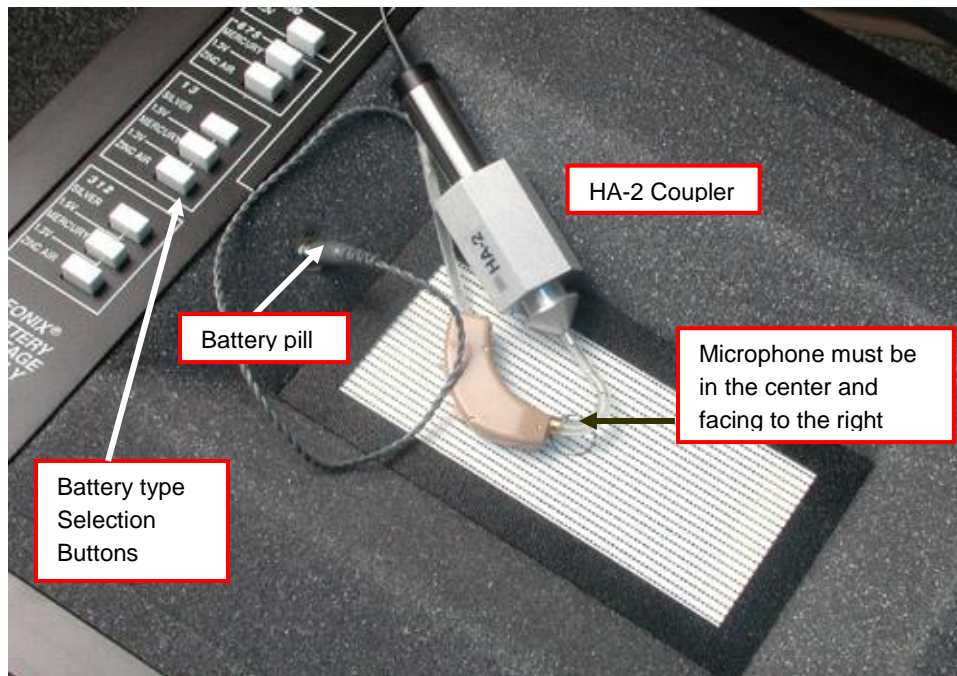
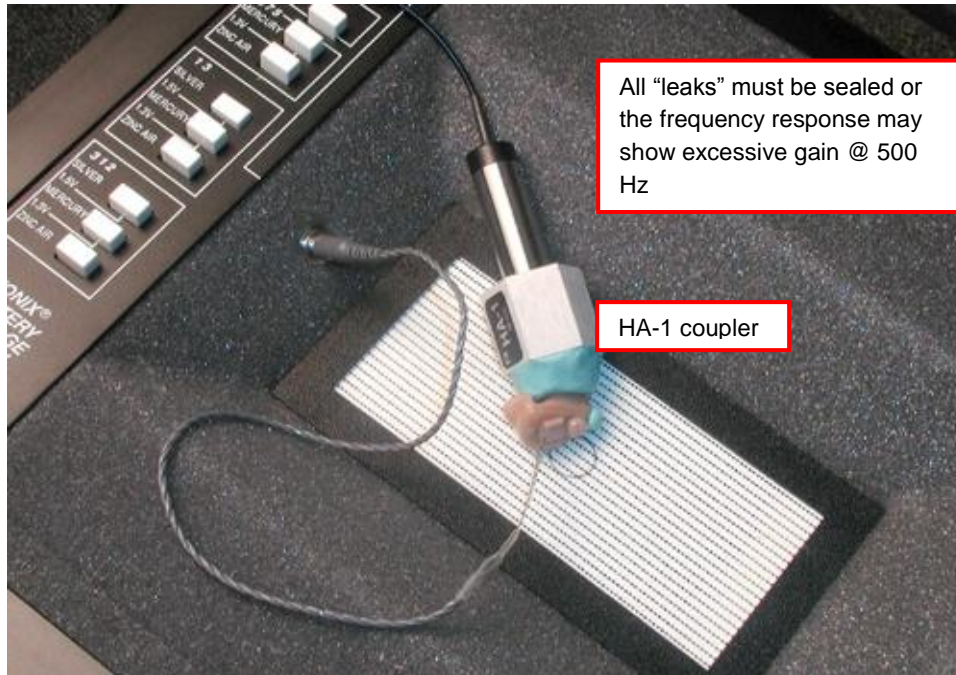
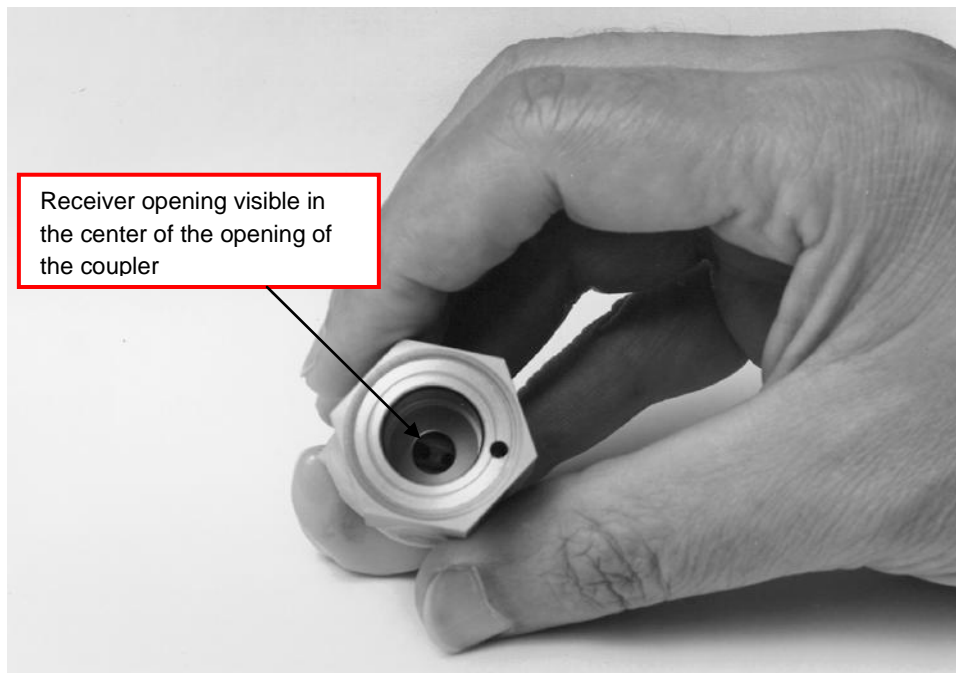
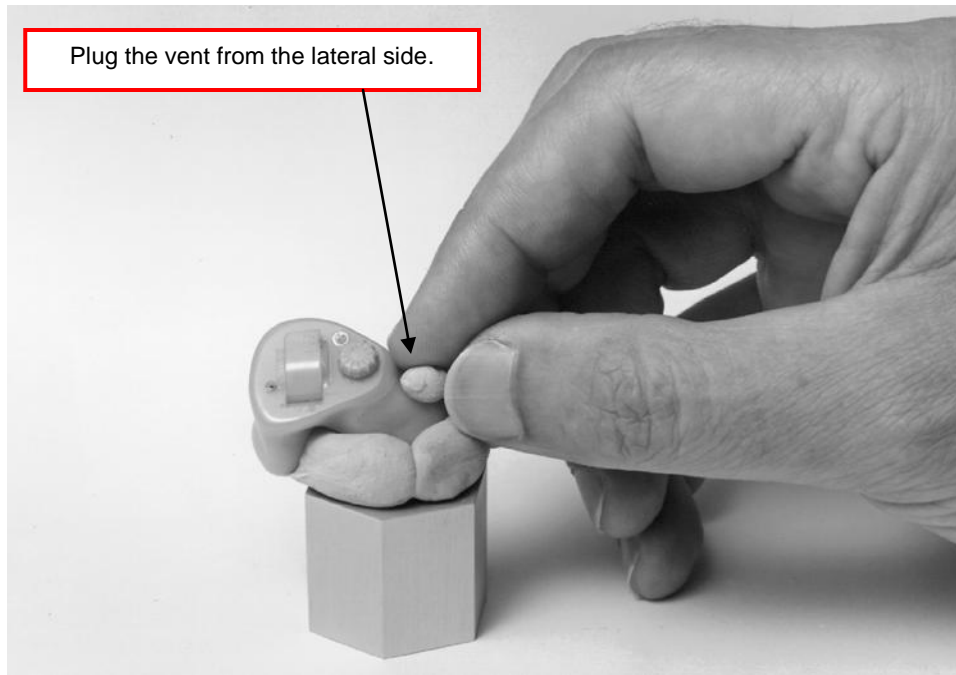

Figure 1 – Configuration of the hearing aid test chamber for performing the electroacoustic analysis of a BTE hearing aid.
Figure 2 – Configuration of the hearing aid test chamber for performing electroacoustic analysis of a custom hearing aid.
Figure 3 – Illustration showing the receiver port of the hearing aid in the center of the opening of the HA-1 coupler.
Figure 4 – Illustration of the correct manner to seal the vent of a custom product.
Before providing a detailed description of various methods one can use to verify the performance of hearing aids using coupler measures, the authors feel it may be beneficial to provide a general overview of preparations for coupler measures. Figure 1 illustrates the correct method to couple a **behind-the-ear (BTE)** hearing aid to a **HA-2** coupler and be placed in the test chamber. In the Frye 7000, it is important to place the hearing aid in the test chamber so the hearing aid microphone is placed in the center of the reference point and facing the right. The reason the hearing aid is facing the right is because in the 7000, the loudspeaker is in the right side of the test chamber and facing up. Also, if the clinician desires to measure battery drain it is important that the correct battery pill be inserted into the hearing aid battery compartment. Figure 2 illustrates the coupling of a **custom hearing aid** to an **HA-1** coupler. Figure 3 illustrates the importance of being sure that the receiver of the custom hearing aid is placed on the HA-1 coupler so that the receiver port is in the center of the hole within the coupler. Figure 4 illustrates how the custom hearing aid is secured to the HA-1 coupler using **Fun-Tak** so that **ALL** possible leaks around the hearing aid case are completely sealed. Also, Figure 4 shows that it is important to cover the vent hole from the lateral side of the custom case. In Figure 5, the upper curve illustrates a peak in the frequency response at ~500 Hz that can occur if the hearing aid is not completely sealed to the HA-1 coupler. The lower curve in Figure 5 illustrates the “correct” smooth frequency response that should occur when the hearing aid is correctly sealed to the HA-1 coupler. When testing **completely-in-the-canal (CIC)** hearing aids it is important to use
3. Set hearing aid to full-on gain, attach to the appropriate coupler, and position the microphone of the hearing aid at the reference point with the hearing aid facing the right side of the test chamber. (See *Figures 1 - 6*). Close and lock chamber lid.
3. Set hearing aid to full-on gain, attach to the appropriate coupler, and position the microphone of the hearing aid at the reference point with the hearing aid facing the right side of the test chamber. (See Figures 1 - 6). Close and lock chamber lid.
4. Set hearing aid to full-on gain, attach to the appropriate coupler, and position the microphone of the hearing aid at the reference point with the hearing aid facing the right side of the test chamber. (See *Figures 1 - 6*). Close and lock chamber lid.